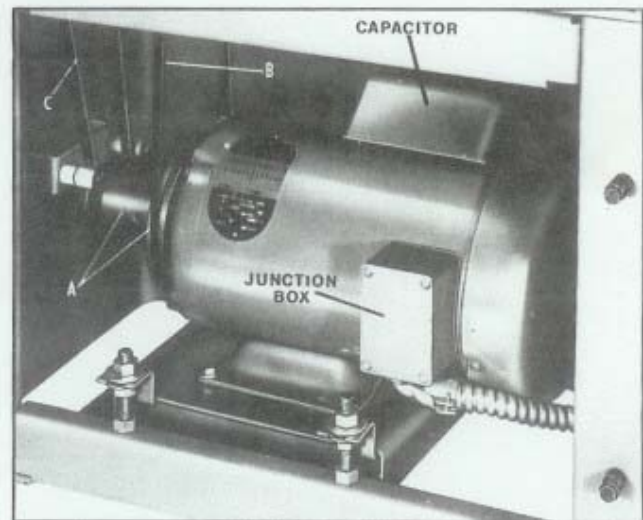

Fig. 2.
On the other hand, if installing your own motor, the motor mounting plate will accommodate NEMA frames 182T and 184T Totally Enclosed Fan Cooled Motors. These frame motors must have the junction box located to the right of the motor shaft as shown in Fig. 2. Rockwell Catalog No 22-425 1-1/8" bore motor pulley must be used with these motors.
In regards to single phase motors, most capacitors are mounted on the top of the motor. This may cause interference between the table raising screws and the capacitor. Since motors with special capacitor locations are difficult to obtain, we recommend that only Rockwell Motors with the special capacitor location be used as shown in Fig. 2.
1. Place the motor in position with the shaft extending toward the gearbox side of the machine as shown in Fig. 2, and fasten it to the motor plate.
2. Place the pulley (A) on the motor shaft with the large step of the pulley towards the motor, as shown in Fig. 2.
3. Assemble the belts (B) and (C) Fig. 2, to the pulley and adjust belt tension as described under ADJUSTING BELT TENSION.